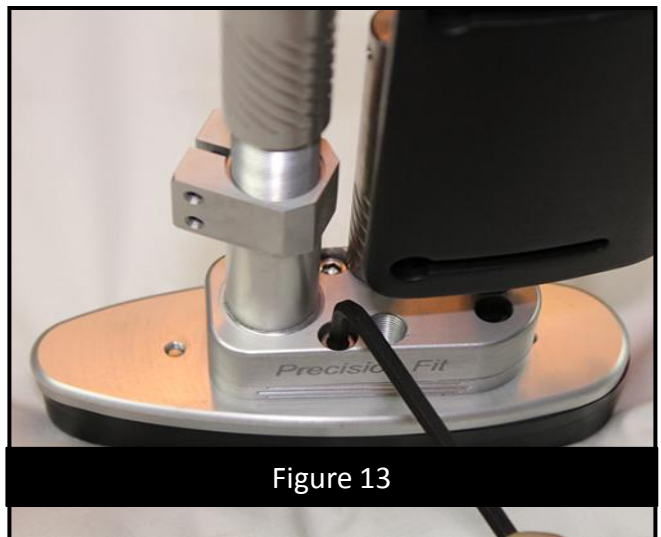

Figure 13
1. Remove butt pad adjustment unit by removing both socket head screws [Ident. D] from the counter bored holes in the base assembly [Ident. 6] with the 5/32" Allen wrench provided in your tool kit. **(Figure 13)**